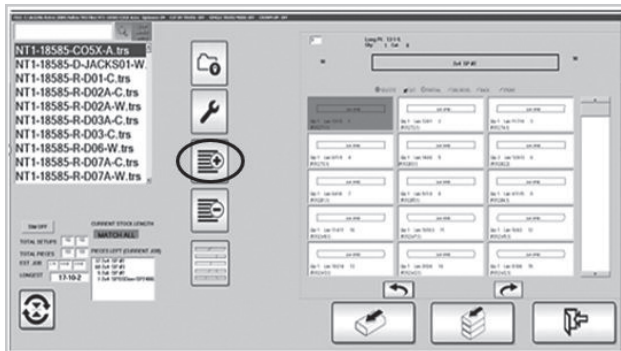

Figure 46
- Now, click or touch Create Pick List in AUTO (circled in Figure 46).